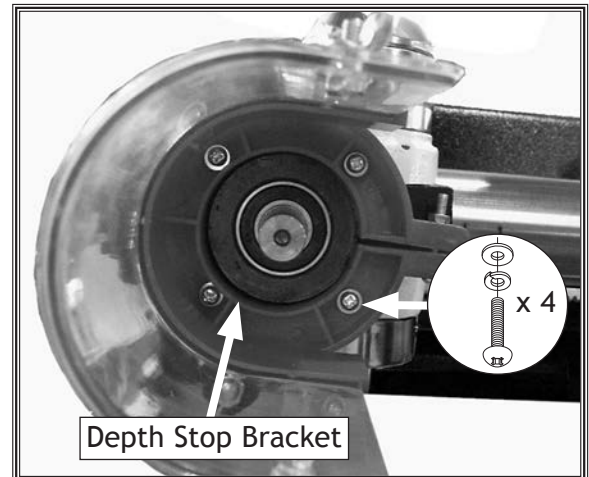

Figure 25. Chuck guard secured to depth stop bracket.
22. Secure chuck guard to bracket with (4) M4-.7 x 10 Phillips head screws, 4mm lock washers, and 4mm flat washers, as shown in **Figure 25**.